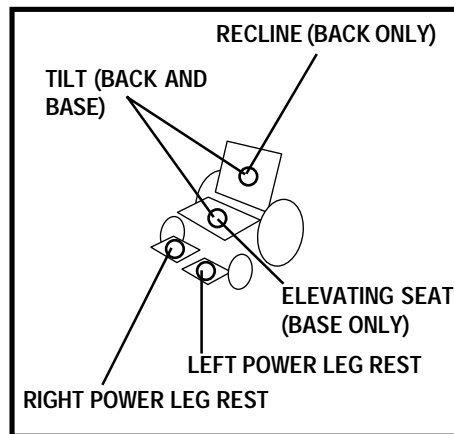

Figure 6. Actuator Selection
The Remote Plus Controller can control five actuators using the mode key and the joystick. The active actuator is indicated by an illuminated actuator LED. See figure 6.
3. Push the joystick to the right to cycle through the available actuators. The actuator indicators will display which actuator is activated. See figure 6.